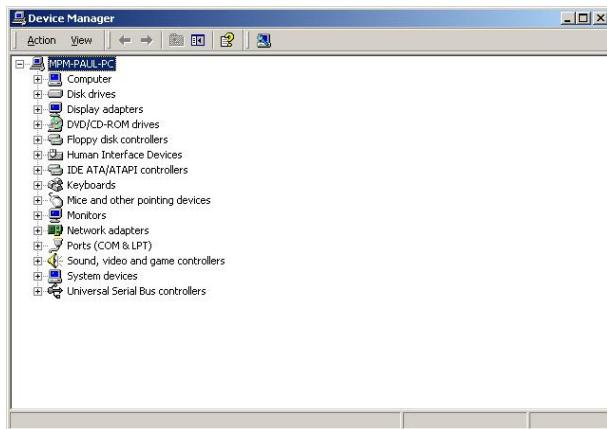

Figure 7-18: Device Manager List
Step 33: A list of system hardware devices appears (**Figure 7-18**).